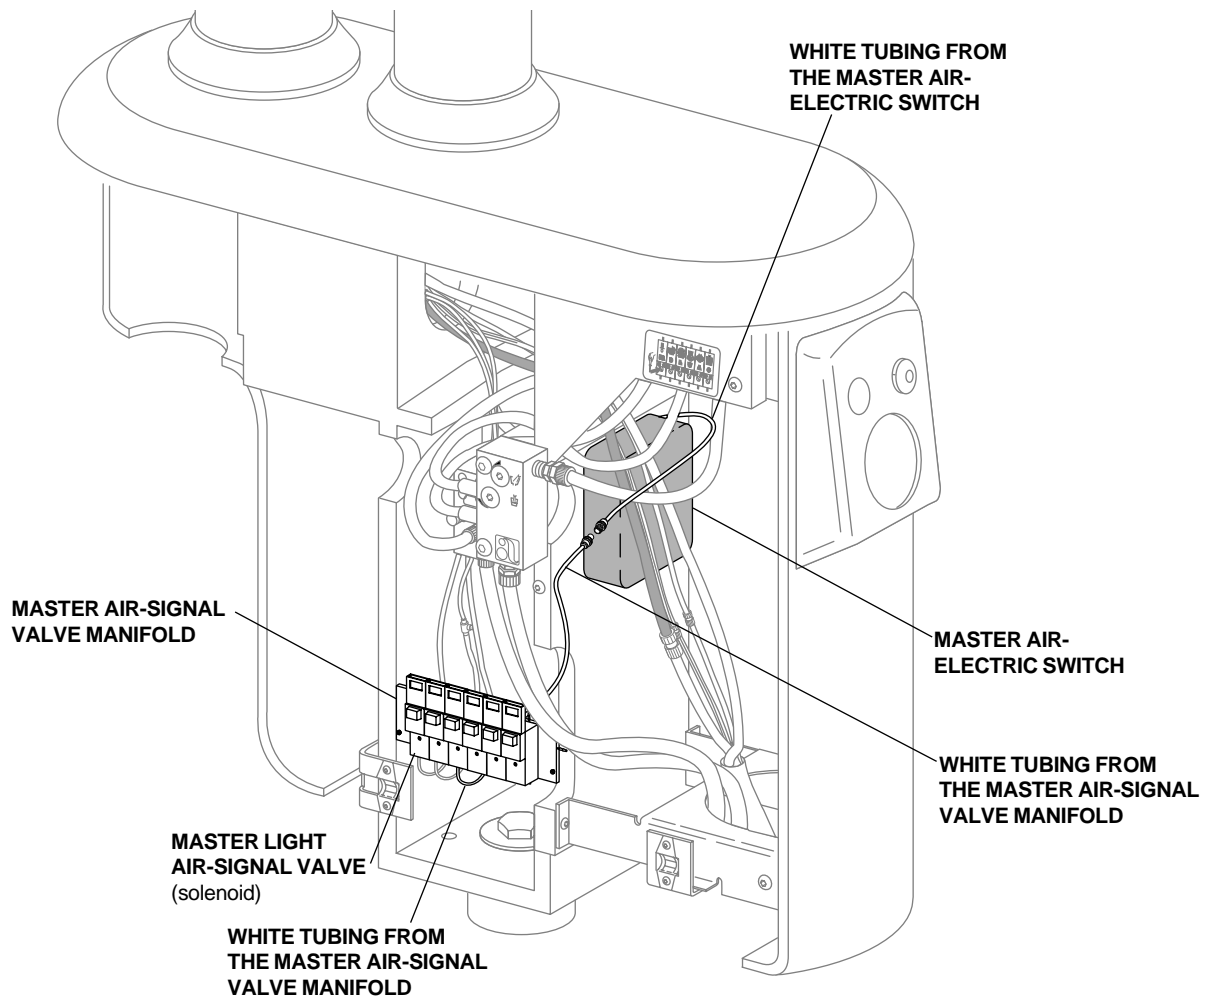

FIGURE 17
4. Connect the white tubing coming from the master air-electric switch to the white tubing coming from the Master light air-signal valve (see *Figure 17*).